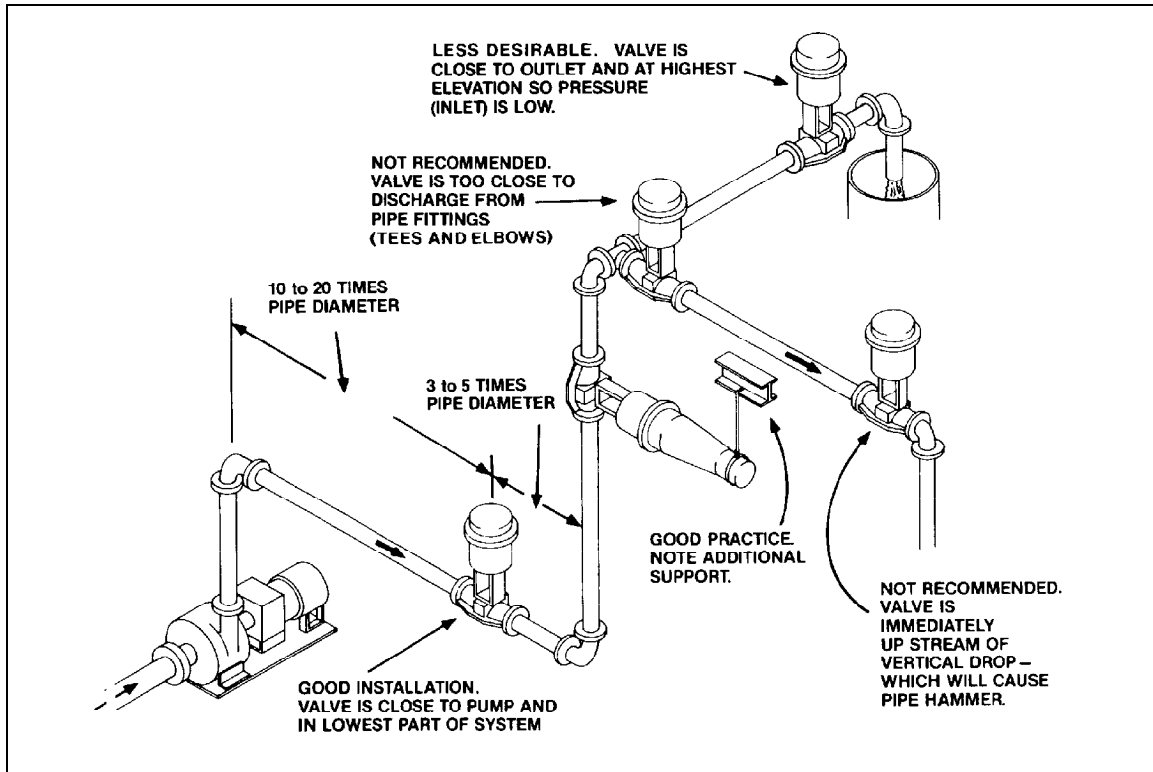

fig 1
4. Allow a straight run into and out of throttling valves. A good rule of thumb is 10 to 20 pipe diameters up stream, and 3 to 5 pipe diameters down stream. (Refer to Fig. 1)